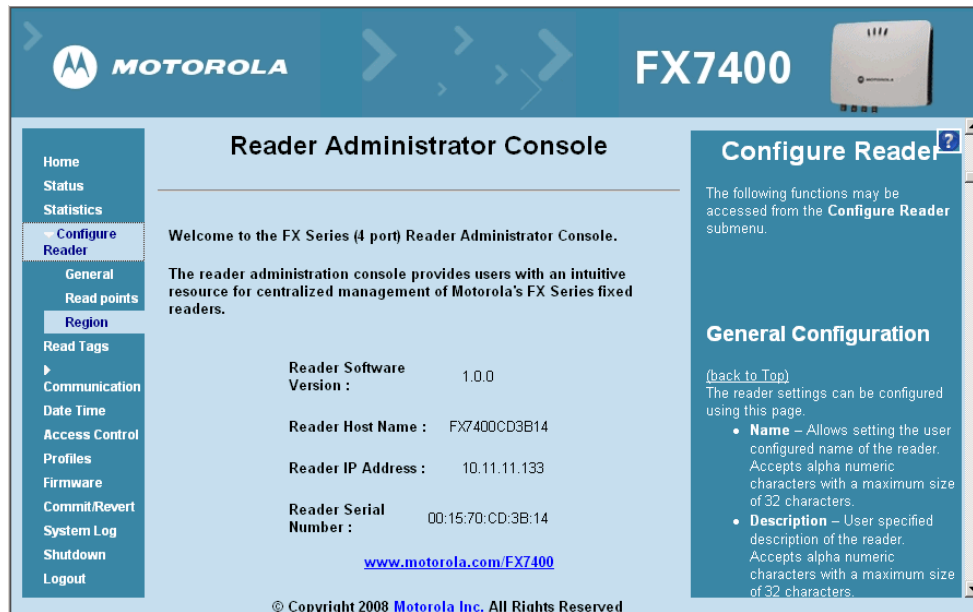

Figure 4-13 Reader Administrator Console Main Window
2. Enter the **User Name:** and **Password:** in the appropriate fields and click **Login**. The reader **Administrator Console Main Menu** window appears (Figure 4-13).